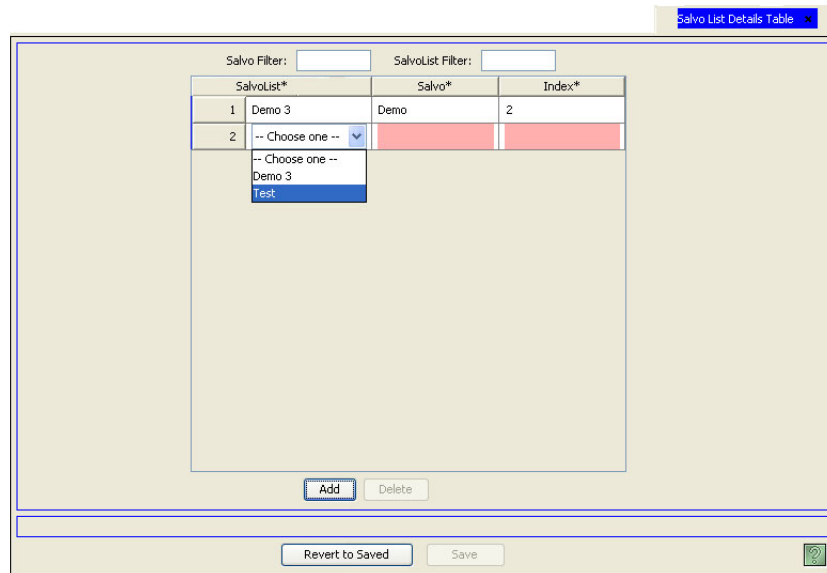

Figure 15-16. Salvo List Details Table
- 2 From the Navigation area, select the 'Views' pane and then 'Salvo List Details'. The 'Salvo List Details' table appears, as shown in Figure 15-16.